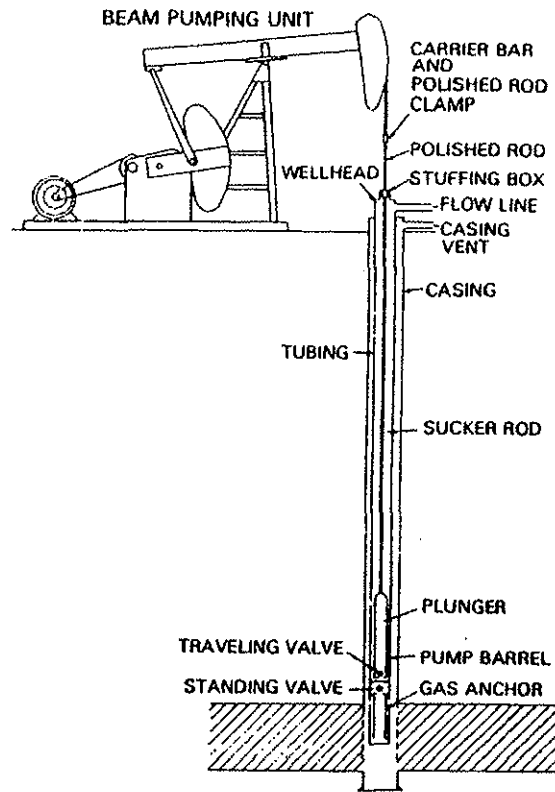

Fig. 8-6. A beam pumping unit (pump jack) operating a bottom-hole pump
**Beam pumping.** The simplest way to produce a well that no longer flows is to pump the oil or oil-water mixture out of the well. The oldest system is known as *beam pumping*, placing a pump near the bottom of the well inside the production tubing (fig. 8-6). A string of *sucker rods* (small-diameter, solid metal pipe) that extends from the pump to the surface